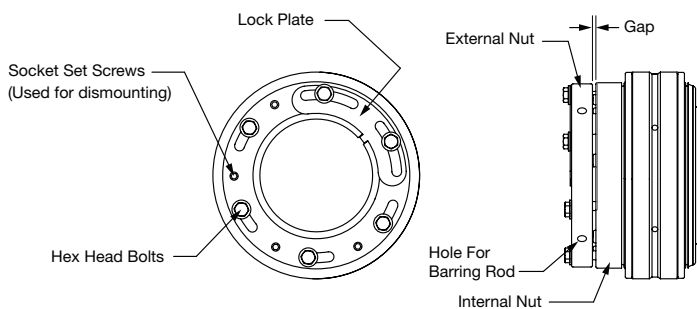
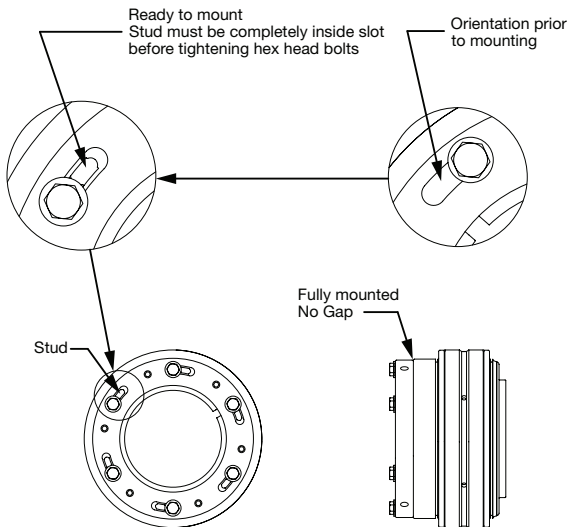
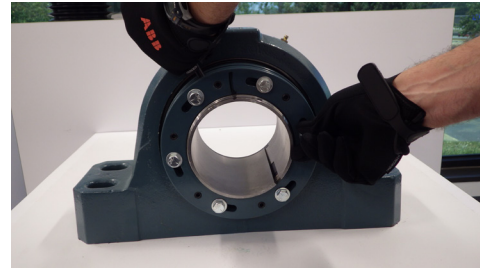
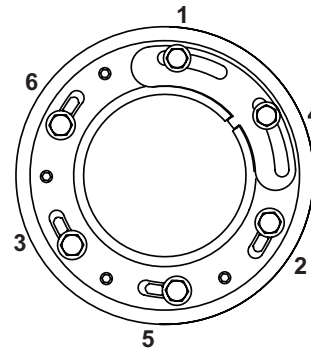

Figure 1. Bearing with dual nut as shipped with gap.
Figure 3 - Nut rotated and ready for installation
Figure 4 – Holding external nut and rotating internal nut using hex head bolt
Figure 5 - Correct installation star pattern
The locknut assembly is comprised of an external nut and internal nut. The bearing is shipped such that there is a gap between the two nuts. The two nuts must maintain this gap prior to mounting the bearing. The dual nut configuration prior to installation is shown in Figure 1. Note the position of the external nut slots relative to the hex cap bolts.
- Loosen but do not remove the hex head bolts. Use 3/8” rod to hold external nut in position when loosening the hex head bolts. While holding the external nut with a 3/8” rod, grasp one of the hex head bolts, and rotate the internal nut counter clockwise to shoulder the hex head bolts as shown in Figure 4. See Figure 4 demonstrating this step. **If the external nut moves during this step, it is imperative to reposition the nut assembly so that the external nut is positioned with the alignment mark made in step 4 before proceeding to the next step. Make sure the spacing stud is visible in the slot as shown in Figure 3, or the nut will not install correctly.**
- At this point the machined studs used to create the gap have been positioned inside the elongated slots, and the two nuts can be pulled together, which installs the bearing on the shaft. **If the external nut moves during this step, it is imperative to reposition the nut assembly so that the external nut is positioned with the alignment mark made in Step 4 before proceeding to the next step.** Gradually tighten the hex head bolts in a star pattern, as shown in Figure 5, until the external nut firmly seats against the internal nut and the gap is completely closed as shown in Figure 3 (Not yet full torque).
- Remove two hex head bolts nearest to the slot in the adapter. A slight gap may appear between the two nuts when these two hex head bolts are removed. This is a normal occurrence and the gap will close up when the two hex head bolts are reinstalled. Install the lock plate so that the tab fits into the adapter slot. If the lock plate does not line up with the two holes, it can be flipped over to fit as shown in Figure 1. Reinstall the two hex head bolts to secure the lock plate. **Using a star pattern, as shown in Figure 5, torque the hex head bolts to the values shown in Table 1.** It is considered a best practice to initially tighten the hex head bolts to 50% of full torque, then tighten again to 100% full torque (using the star pattern both times).